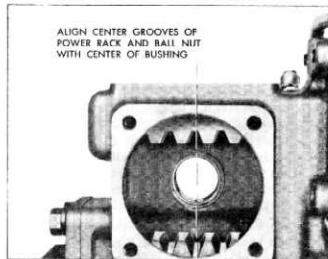

Fig. 48—Positioning Ball Nut and Power Rack
- a. Place steering wheel on end of mainshaft and turn wheel right or left until center groove of ball nut is in line with center of pitman shaft bushing (fig. 48).
- b. Position power rack so that center groove (third groove from piston end) is in line with center of pitman shaft bushing (fig. 48).